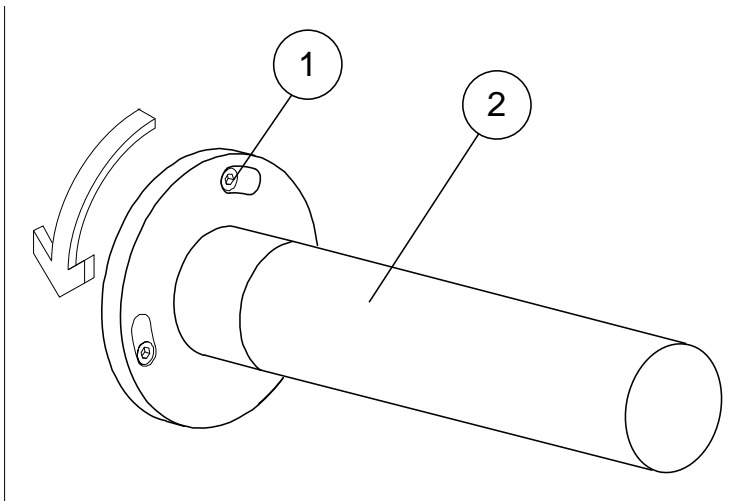

Figure 9-4 Replacing air shaft
The method of replacing air shaft is shown in Figure 9-4.
(1) Screw (2) Air shaft
Step 1: Loosen screws (1) with 6# allen wrench;
Step 2: Rotate as direction shown in Figure 9-4 and remove air shaft (2), and install new one.